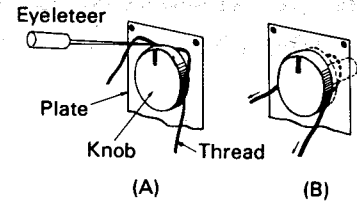

Fig. 1
■ HOW TO REMOVE THE ATTENUATOR BUTTON (Fig. 1)
2. Push in the thread between the plate and knob by using an eyeleteer, tweezers or the like. (Fig. 1-A)
3. Let the thread be caught by the knob and pull it remove the knob. (Fig. 1-B)